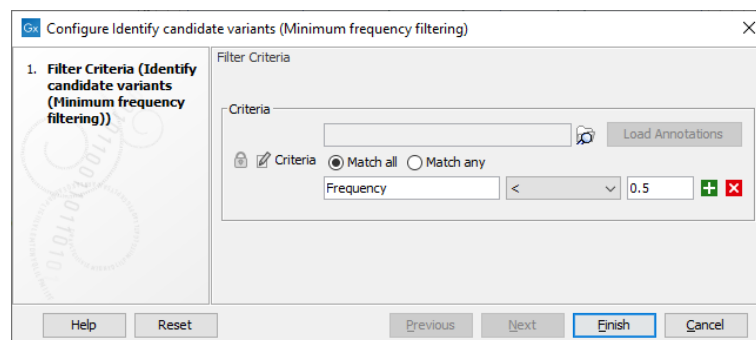

Figure 15: Add a frequency cutoff to filter for variants with a frequency below 0.5%.
32. Configure the filter criteria for this element so it matches that shown in figure 15.